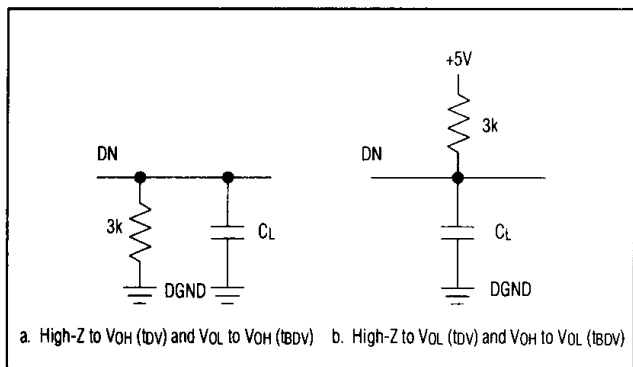

図1. アクセス時間に対する負荷回路
**Note 9:** t16 and t21 are measured with the load circuits of Figure 1 and defined as the time required for an output to cross 0.8V or 2.4V.